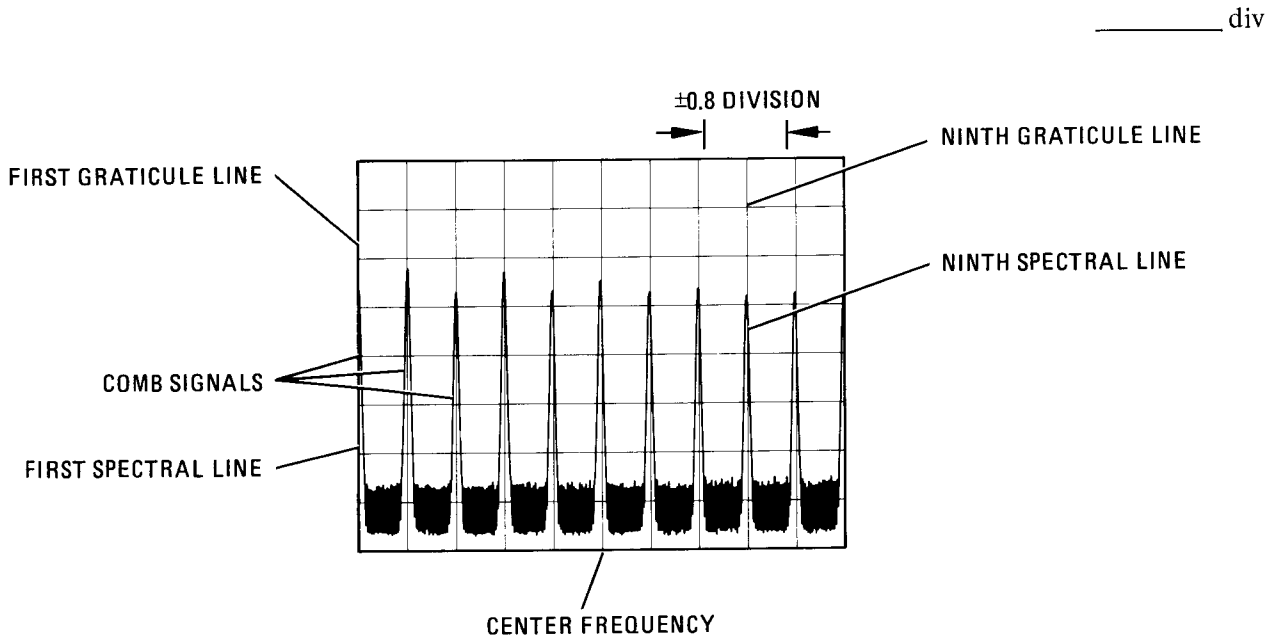

Figure 4-4. Frequency Span Accuracy Measurement for Ninth Spectral Line
5. Set FREQ SPAN/DIV to 10 MHz and RESOLUTION BW to OPTIMUM. Adjust TUNING control to position one spectral line (from comb generator) at the first graticule line (far left) of display. Measure error between ninth spectral line and ninth graticule line. Error should be  $\pm 0.8$  division, maximum. (See Figure 4-4.)